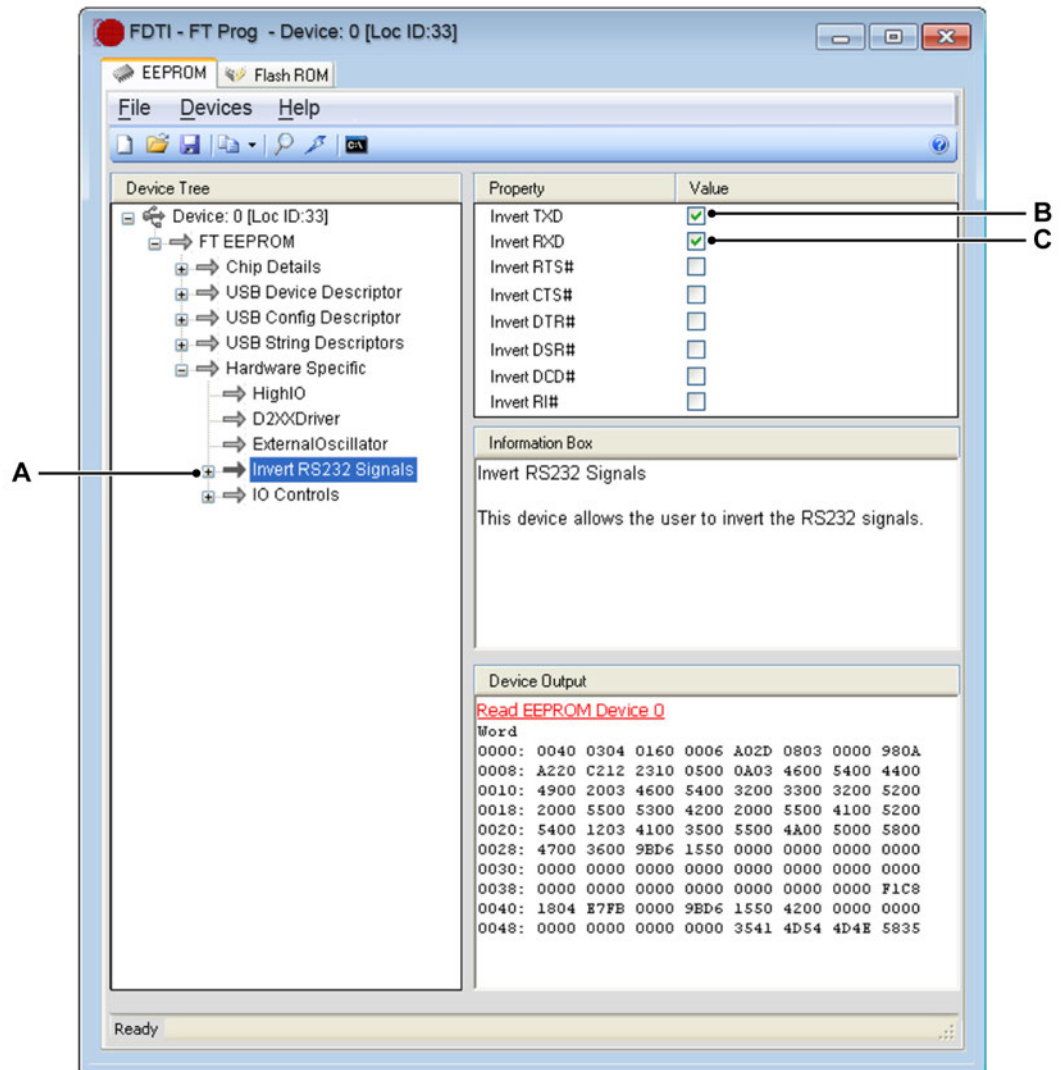

Figure M.2: FTDI - FT Prog (Part2)
- 4 In **Device Tree** in the left-hand column, expand the **Hardware Specific** node and select the **Invert RS232 Signals** (see Figure M.2).
- 5 In the **Property** column, select **Invert TXD** and **Invert RXD** check boxes (see Figure M.2):